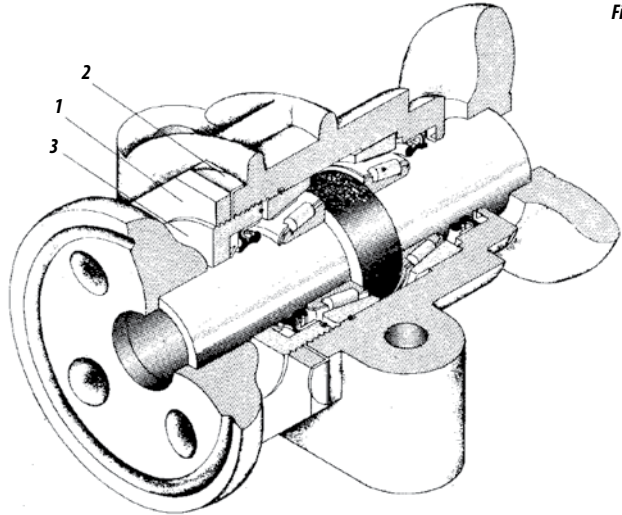

Figure 15
- 08 - Take out the washer (1) figure 15.
- 09 - Release the bolts (2) and take out the lid (3).
- 10 - Take the joints 1 or 2 (4) out of the lid of the roller bearing. Put it again and tighten it.